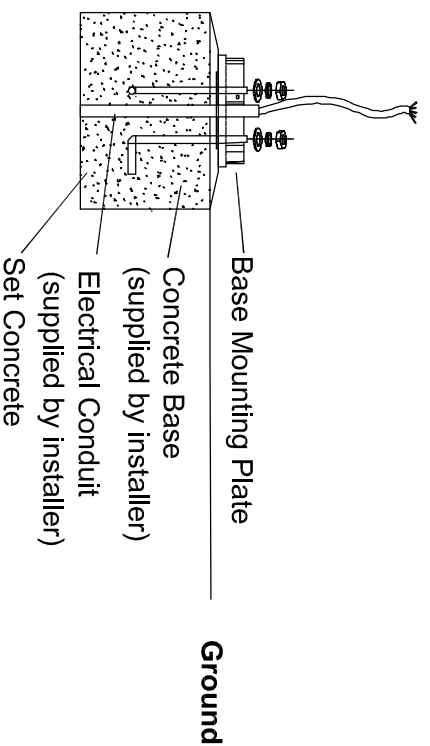

Figure 5
- Figure 5 - Install base mounting plate over anchor bolts. Use flat washer, spring washer, and nuts to tighten base mounting plate to set concrete base.